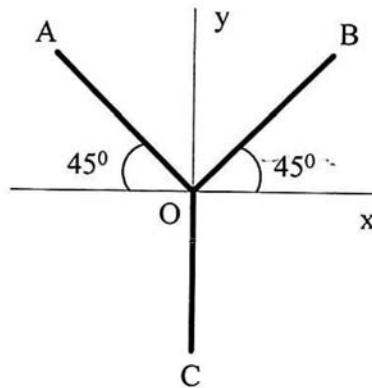

Fig. 2(a)
2. (a) A slender rod is welded into the shape as shown in Fig. 2(a) Locate the position of centroid of the rod with respect to origin O if $AO = BO = CO = 50$ mm : [4]